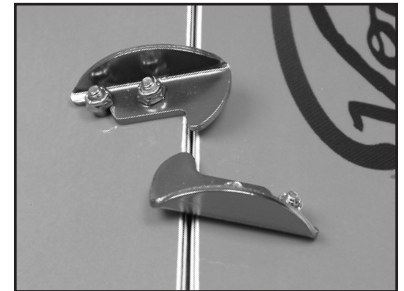

FIGURE 15
3.) Rest the tail of one board half on the toe of your boot. Line up the other board half at a slight angle. Flat out the angle and mate the 2 board halves until the interlocking hooks engage. (See Figure 15)